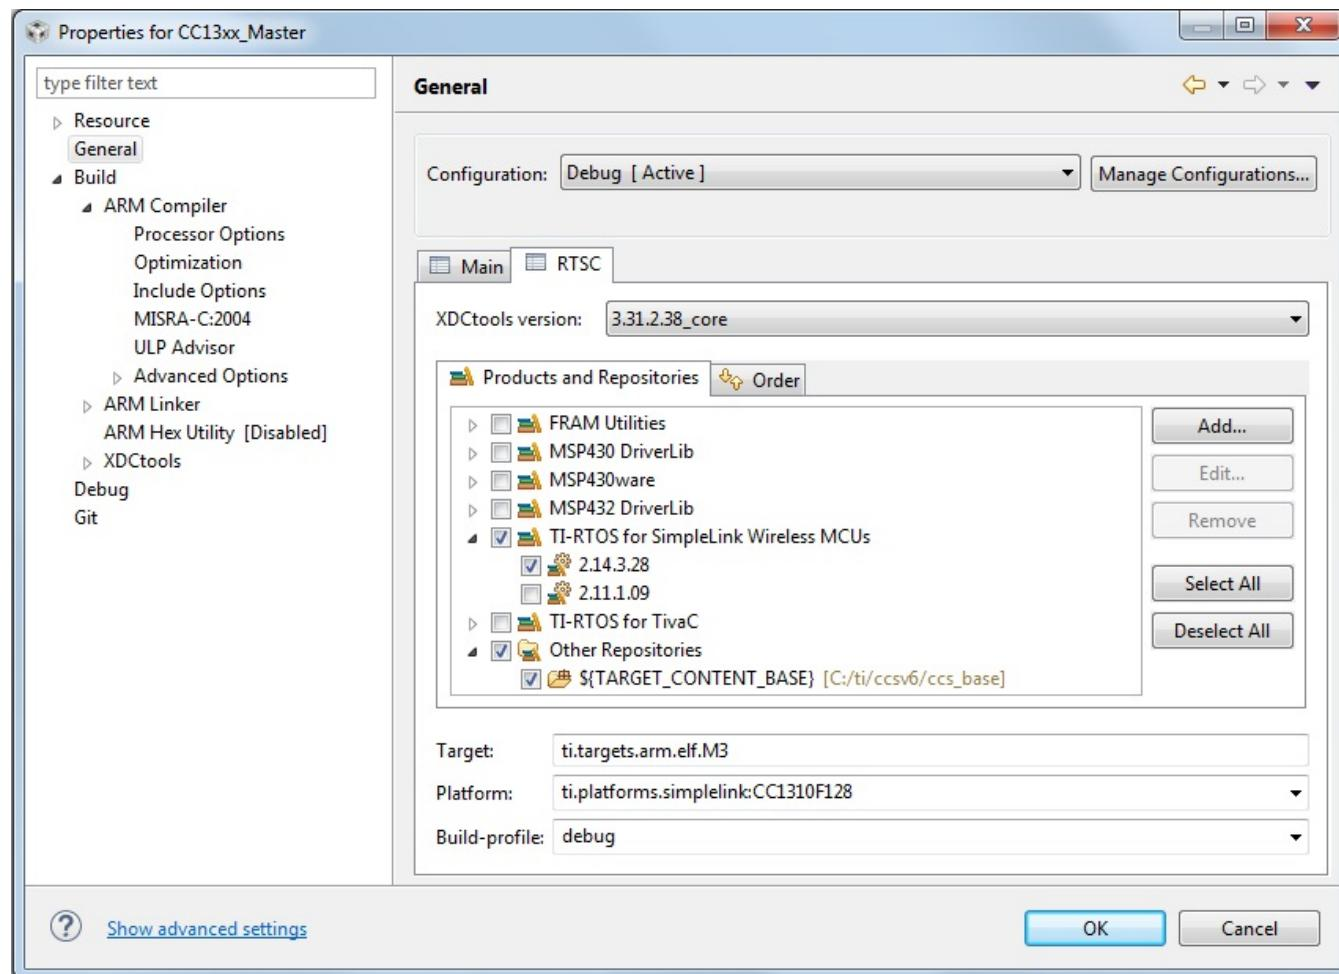
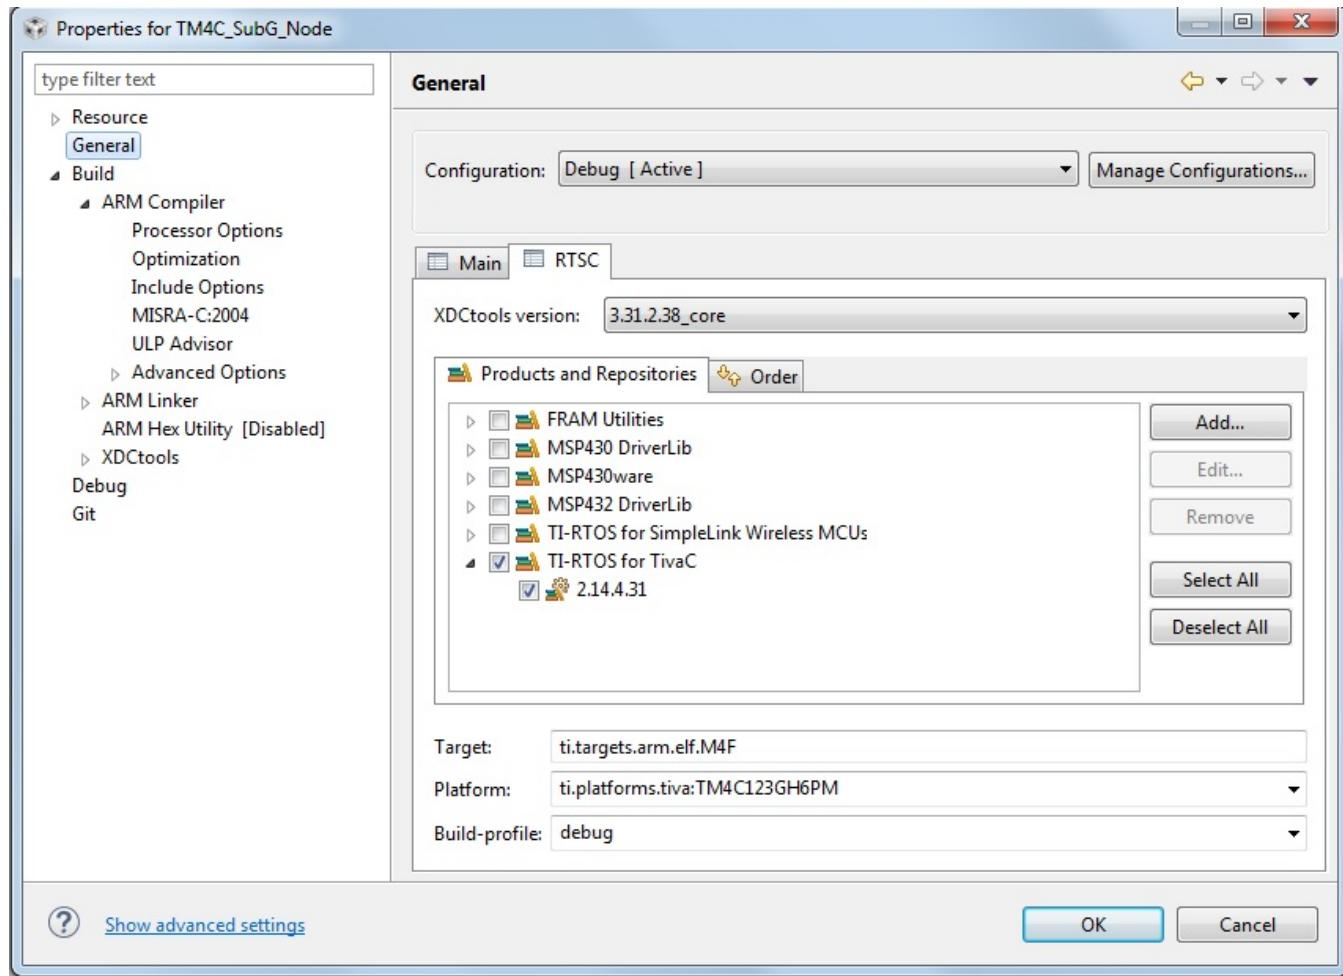

Figure 11. TI-RTOS Product Selection—CC2650
Figure 12. TI-RTOS Product Selection—TM4C Slave
5. Check the TI-RTOS version and platform selection (see Figure 11 and Figure 12).